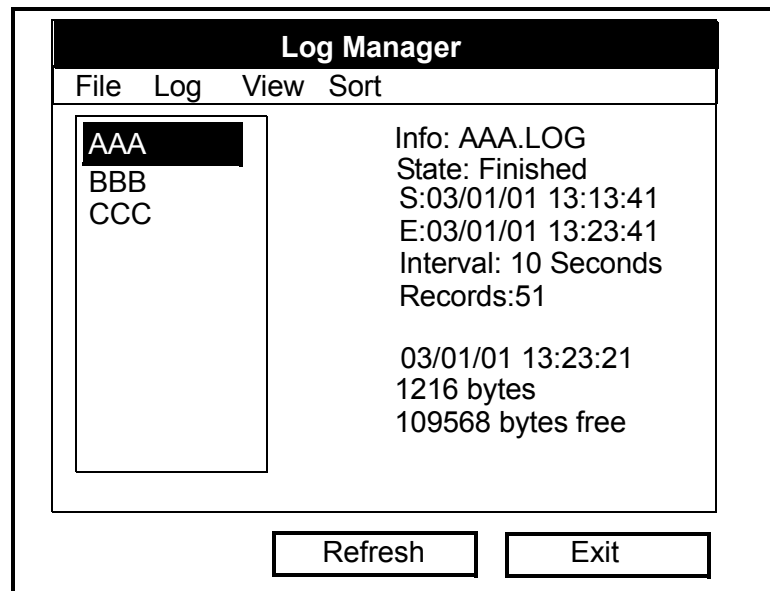

Figure 5-2: The Log Manager Window
2. With the *Log Menu* highlighted, scroll to the *Manager* option and press [ENTER]. A screen similar to Figure 5-2 below appears.
1. In the *Log Manager* window (see Figure 5-2 on page 5-2), use the [▼] and [▲] arrow keys to highlight the log you wish to delete.
2. In the *Log Manager* window (see Figure 5-2 on page 5-2), use the [▼] and [▲] arrow keys to highlight the log you wish to transfer.
1. In the *Log Manager* window (see Figure 5-2 on page 5-2), use the [▼] and [▲] arrow keys to highlight the log you wish to stop.